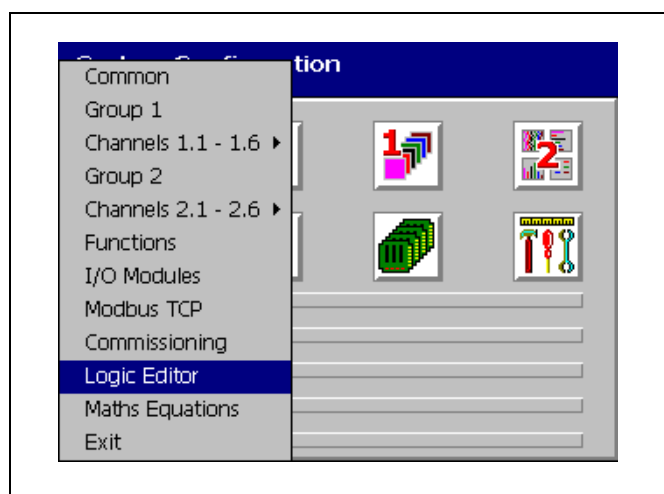

Fig. 1.1 Math and Logic Menu Items – SM1000
- All views in this manual (except Fig. 1.1) are of the configuration screens of the SM2000 but the screens from the SM1000 are similar.